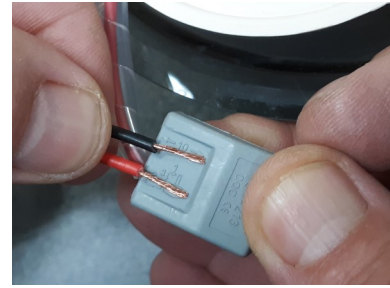
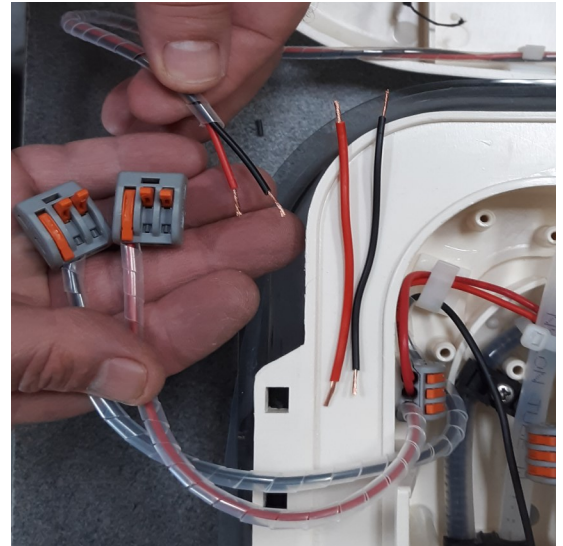
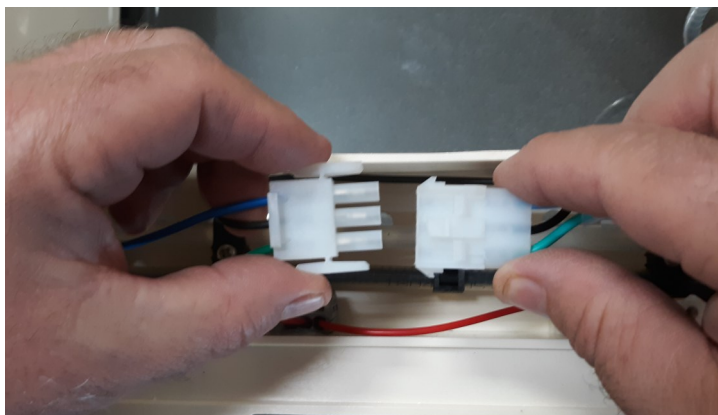
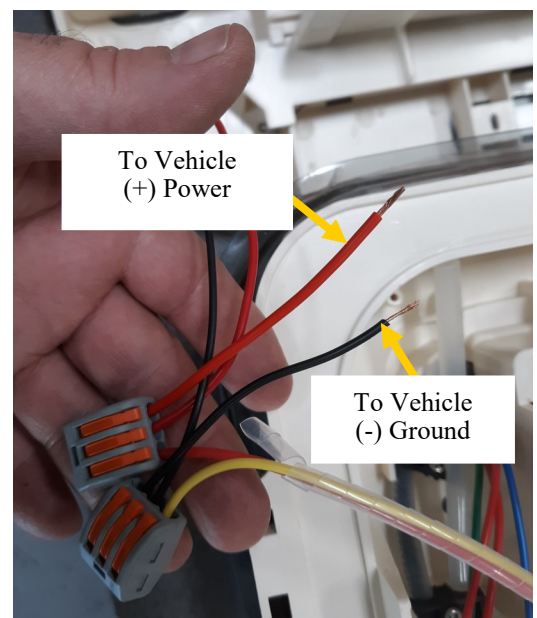

Figure 10
Figure 11
Figure 13
Figure 12
10. Strip and twist the positive and negative wires coming in from your electrical system, and the positive and negative wires from the interior trim ring, using the guide shown in *Figure 10*. Locate the electrical connectors as shown in *Figure 11*. There are two open ports on the positive and negative wire harness. One port on each is for the incoming wires, and one port on each is for the wires from the interior trim ring. Push the wires in and close the lever lock as shown in *Figure 12*. This operation is best accomplished with one person supporting the interior trim ring while the connections are made. Secure the wires with zip ties as needed and push them under the trim ring as it is lifted into place. Pull the switch connector out through the switch plate hole. Plug in the switch connector as shown in *Figure 13*. Install the switch plate with the screws provided.